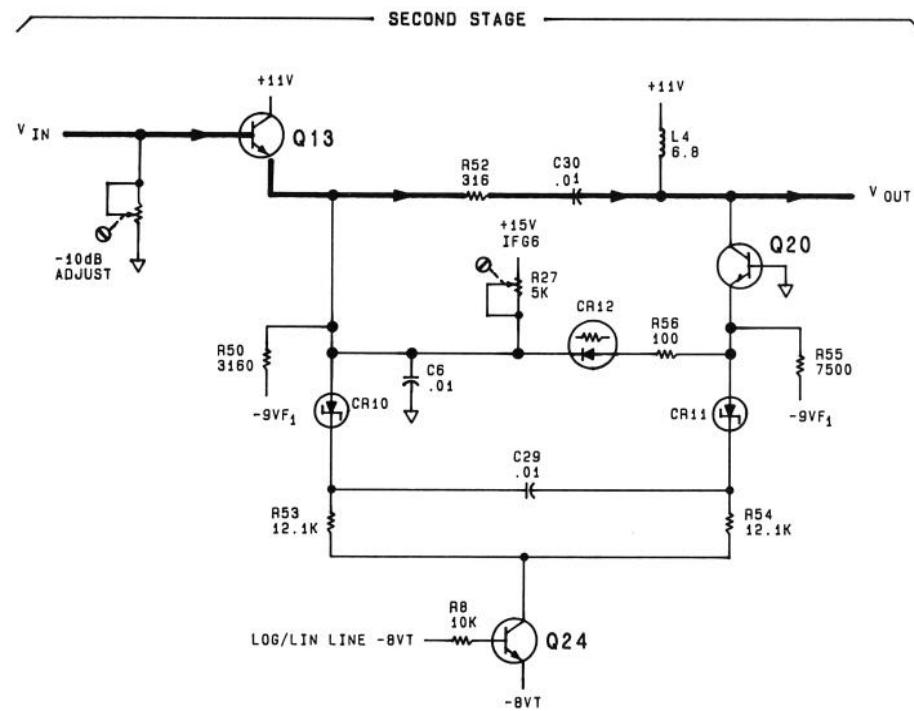

FIGURE 8-51. UNITY GAIN OPERATION IN LINEAR MODE, SIMPLIFIED SCHEMATIC
**Linear Mode of Operation:** Two simplified schematics illustrating unity and 10 dB gain of a typical linear stage are shown in Figures 8-51 and 8-52. In linear mode, the signal-level dependent components are removed from the signal path and a linear display is provided. The  $-8\text{VT}$  is applied to the base of Q24, turning it off. This removes dc bias from CR10 and CR11. Total resistance  $R_T$  (primarily the resistance of R56 and CR12) is high, since CR12 is reverse-biased. Control line IFG6 is high and the stage gain is near unity. The signal flow is through emitter follower Q13 and R52, to Q20. In stages six and seven, an alternate signal path is used to fix the gain at about 5 dB per stage, allowing for scale differences between Log and Lin modes. Both stages are activated by the  $-8\text{VT}$  from the Amplitude Scale switch through R34, R93, R101, CR25, and CR28. The combined stage gain is adjusted by R34 (LIN), which controls the dc PIN diode bias.